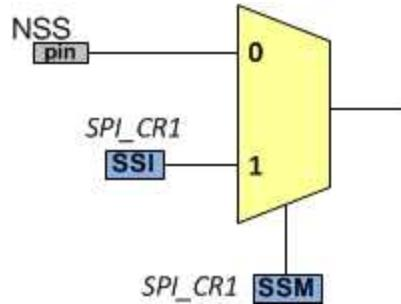

Figure 17-6: SSM Bit of the SPI\_CR1
As we mentioned earlier, the Slave Select (SS) pin of slave device can be connected to ground and the SS pin of masters should be left high. In STM32, the SS pin is named as NSS. See Figure 17-6. The SSM bit of SPI\_CR1 selects between the NSS pin and the SSI bit of SPI\_CR1. You can set the SSM bit to one and make the SSI bit 0 or 1, instead of connecting the NSS pin to ground or VCC. In the case, you can freely use the NSS pin as a GPIO pin or for other purposes.